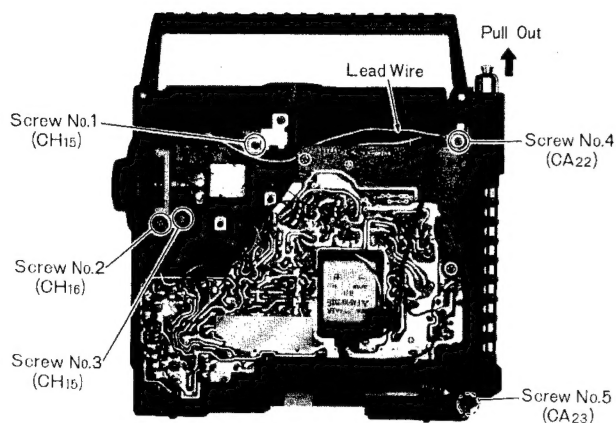

Fig. 4
4. Remove three (3) dial drive assembly screws, nos. 1~3, as illustrated in fig. 4.
2. Unsolder lead wire to whip antenna terminal, as illustrated in fig. 4.
3. Remove two (2) whip antenna cover screws, nos. 4 & 5, as illustrated in fig.4.
4. Pull out whip antenna in the direction of arrow, as illustrated in fig. 4.